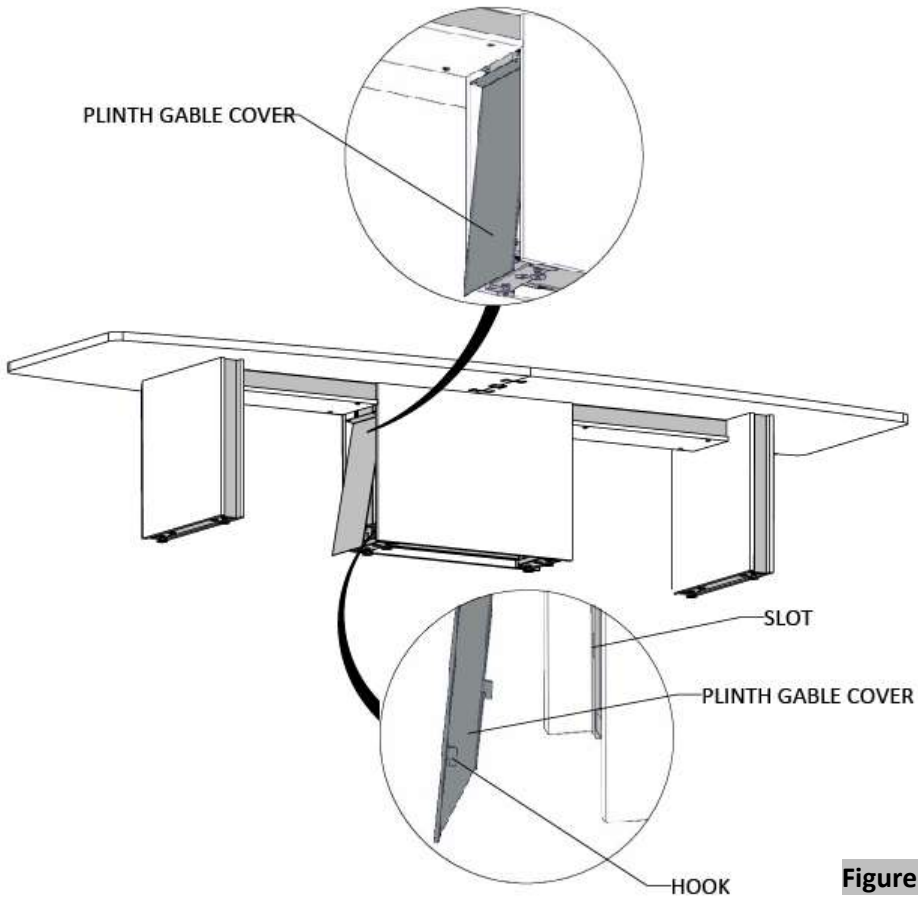

Figure 7
- 11. Insert the plinth gable cover by angling it at 30 degrees; place the hooks into the slots and release it down gently, (Figure 7). Repeat this to install the other plinth gable cover.